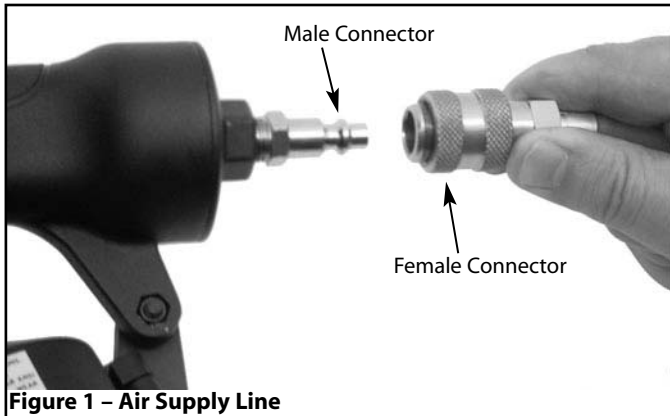

Figure 1 – Air Supply Line
Refer to Figure 1.
- Never connect a female quick-disconnect coupling to the tool side of air line connection. A male, free-flow coupling should be connected to the tool side of air line connection (see Figure 1).